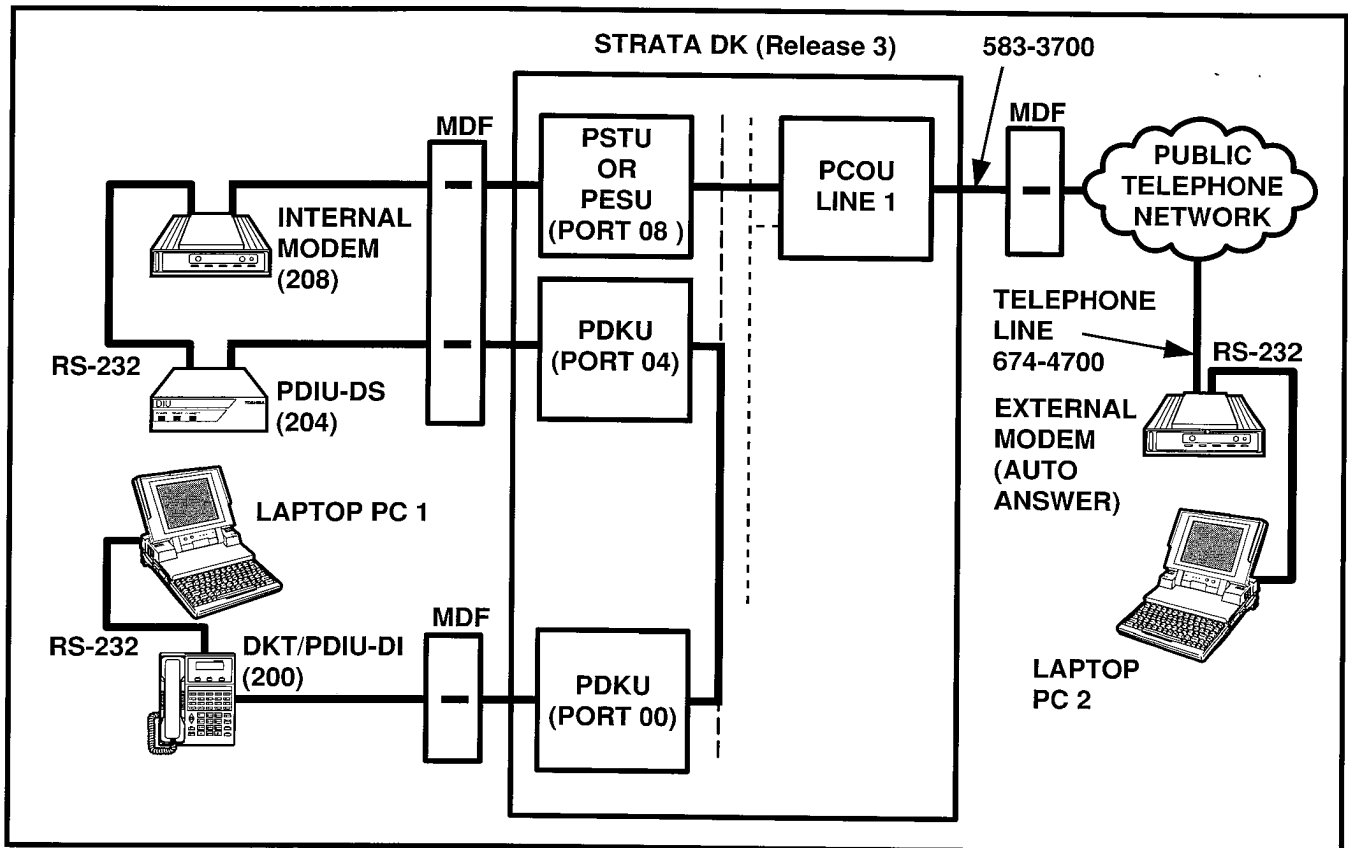

FIGURE 8-37—INTERNAL PC TO EXTERNAL PC TEST CALL USING AT COMMANDS
12.84 Internal PC to External PC Test Call Using AT Commands (see Figure 8-37)